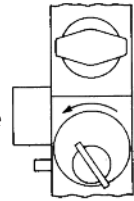

Figure 3-4
- A. Insert cylinder key into cylinder on combination lock side of the door. Turn key in a counterclockwise direction to the stop position (**See Figure 3-4**). Return the key to the pull position and remove. The thumb turn should not turn while the lock is in this mode.